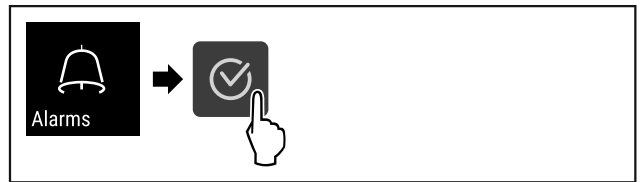

Fig. 107
- Complete steps (see Fig. 107) .